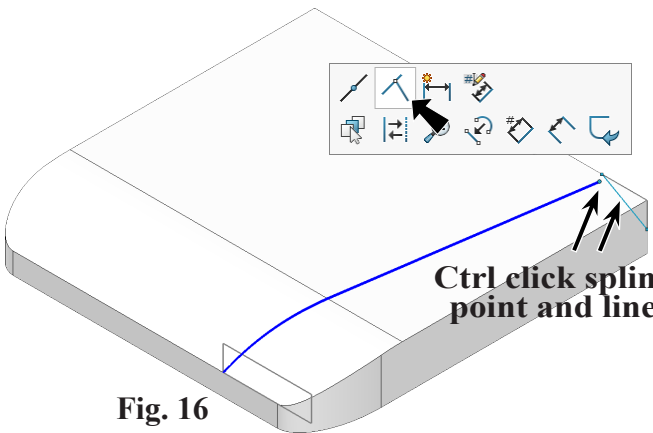

Fig. 16
Step 6. **Ctrl click Spline Point 2 and line in Sketch3** to select both, **Fig. 16**. Release Ctrl key and click **Make Coincident**  on the Context toolbar.